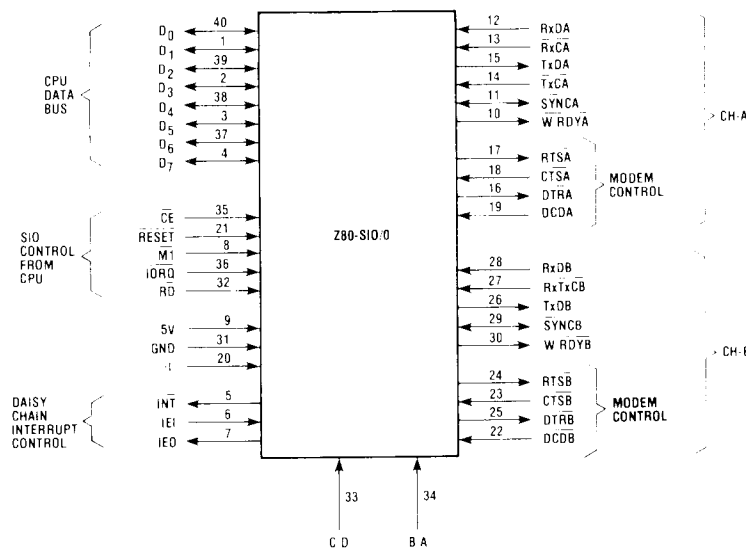

Figure 1. Z80-SIO/0 Pin Configuration
- Z80-SIO/0 has all four signals, but $\overline{\text{TxCB}}$ and $\overline{\text{RxCB}}$ are bonded together (Fig. 1).